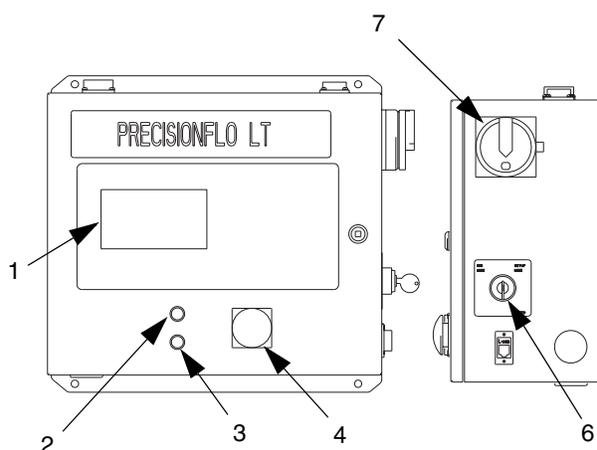

FIG. 16
2. Press the E-stop button (4). See FIG. 16.
4. Turn on the main electrical disconnect (7) to supply power to the PrecisionFlo LT module.
6. Disengage the E-stop button (4). See FIG. 16.